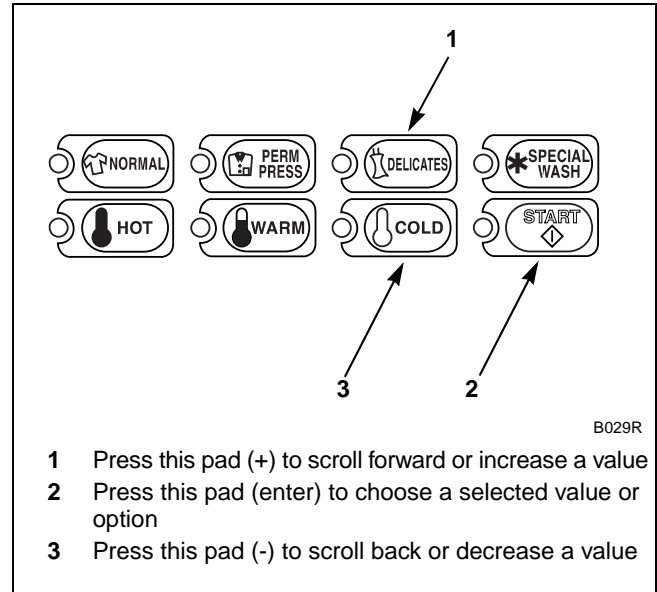

Figure 179
5. Press the DELICATES (+) or the COLD (-) keypad to increase or decrease the current number of minutes displayed in the VFD to the desired number of minutes. Refer to *Figure 179*.
**NOTE: The Special Wash Rinse Final Fill/Tumble Time can be set from zero (0) to 15 minutes.**